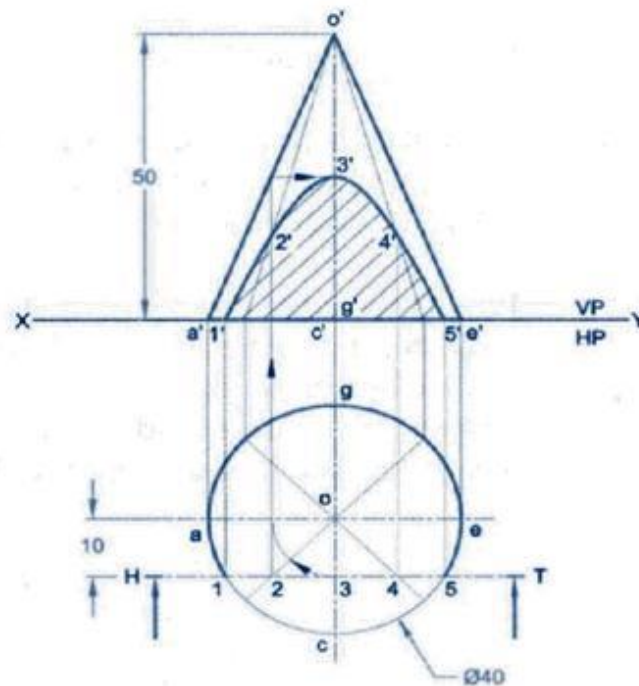

Fig.4.3
1. Draw the projection of the cone and HT of the cutting plane at the distance 10mm from the axis in top view as shown in Fig 4.3.